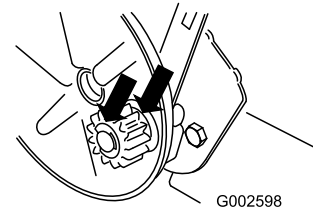

Figure 32
2. Apply a lubricating oil to the inner and outer sides of the gear as shown in Figure 32.